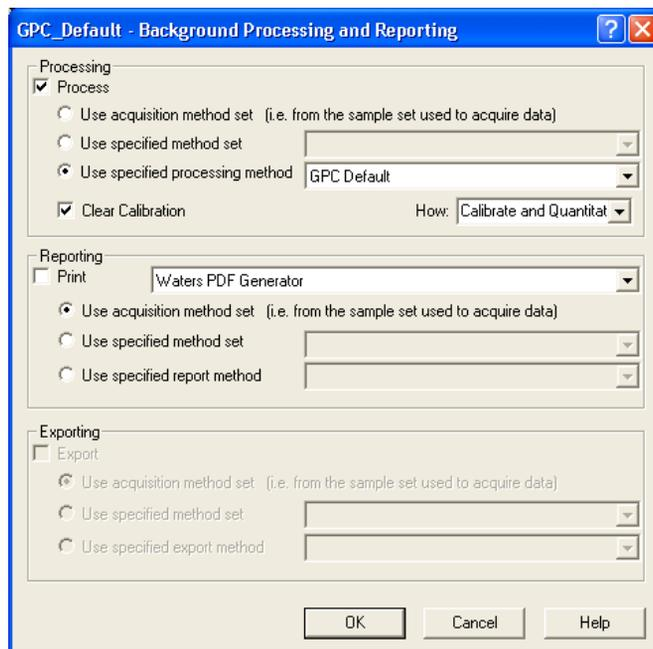

Figure 4-2 Background Processing and Reporting Dialog Box
4. Click **Process**. The Background Processing and Reporting dialog box appears (Figure 4-2).
5. Click **Use specified processing method** in the Processing section of the dialog box. Select **GPC_Default** from the list (Figure 4-2).
6. Select **Clear Calibration** (Figure 4-2). Ensure that **Calibrate and Quantitate** is selected in the How list.